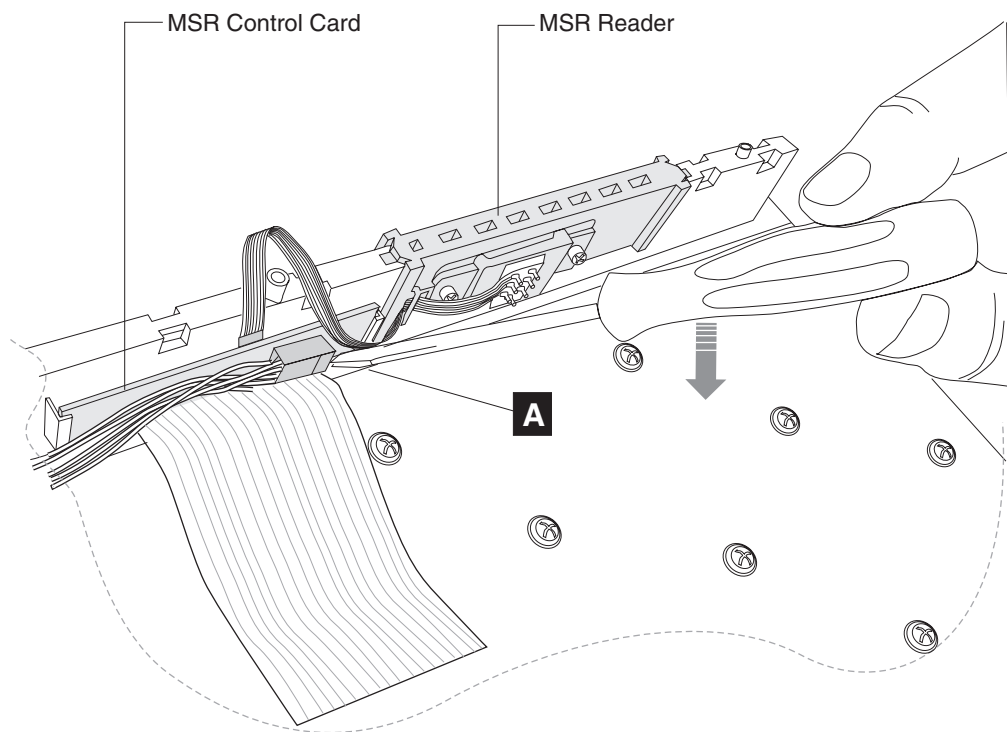

Figure 151. Removing the MSR control card
pry the control card up and off the two plastic guides as shown in Figure 151.
1. Install the MSR control card onto the keypad assembly by inserting the control card into the two plastic guide, as shown in Figure 151.